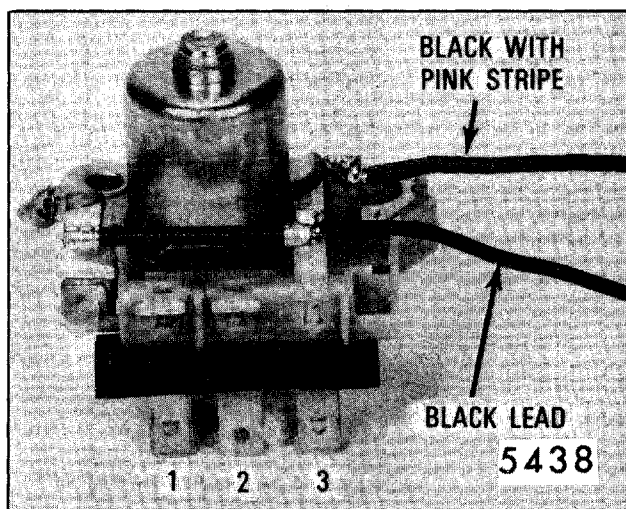

Fig. 2-66-Relay Switch and Terminal Board
3. Remove relay switch and terminal board attaching screw and carefully lift the assembly out of the gearbox. Unsolder leads as required. Refer to Figure 2-66 when resoldering leads.